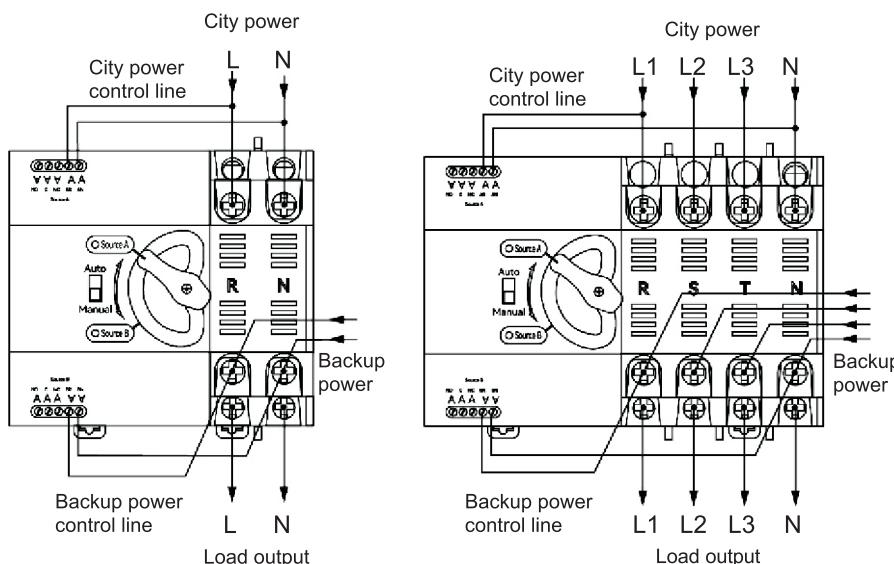

Fig.2 Wiring diagram of controller
6.3 The nameplate of the product can be seen from the front. If you fail to install in the specified direction due to wiring or other reasons, please contact us. The safety distance S1, S2 should not be less than the distance specified in Figure 2. (More information on side picture).